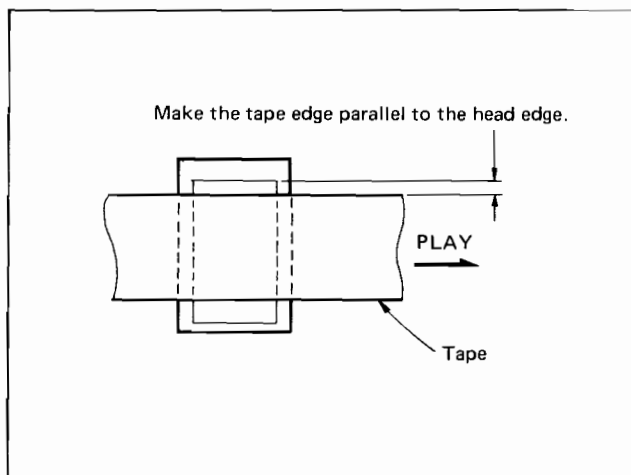

Fig. 5-8.
At this time, check that the tape is in parallel to the head core (as shown in Fig. 5-8).
1. Turn the screw ③ to adjust using the azimuth tape A. At this time, check that the tape is in parallel to the head core. (Refer to Fig. 5-8.)